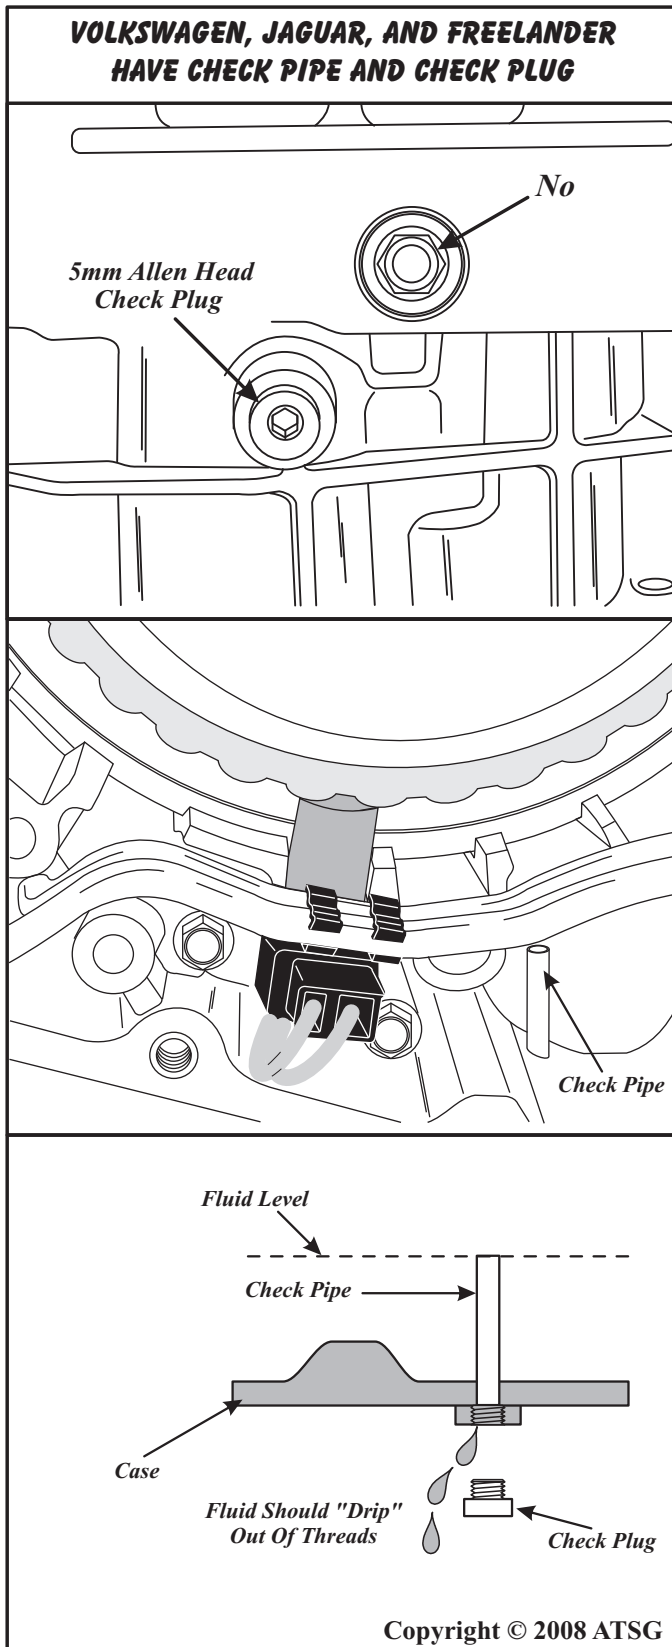
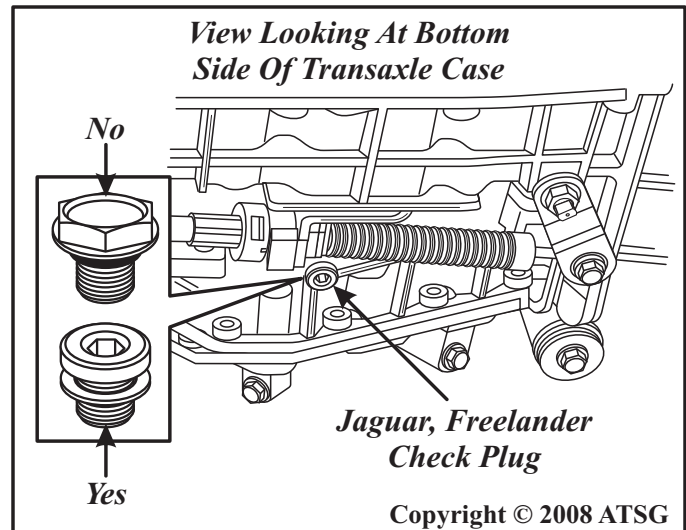
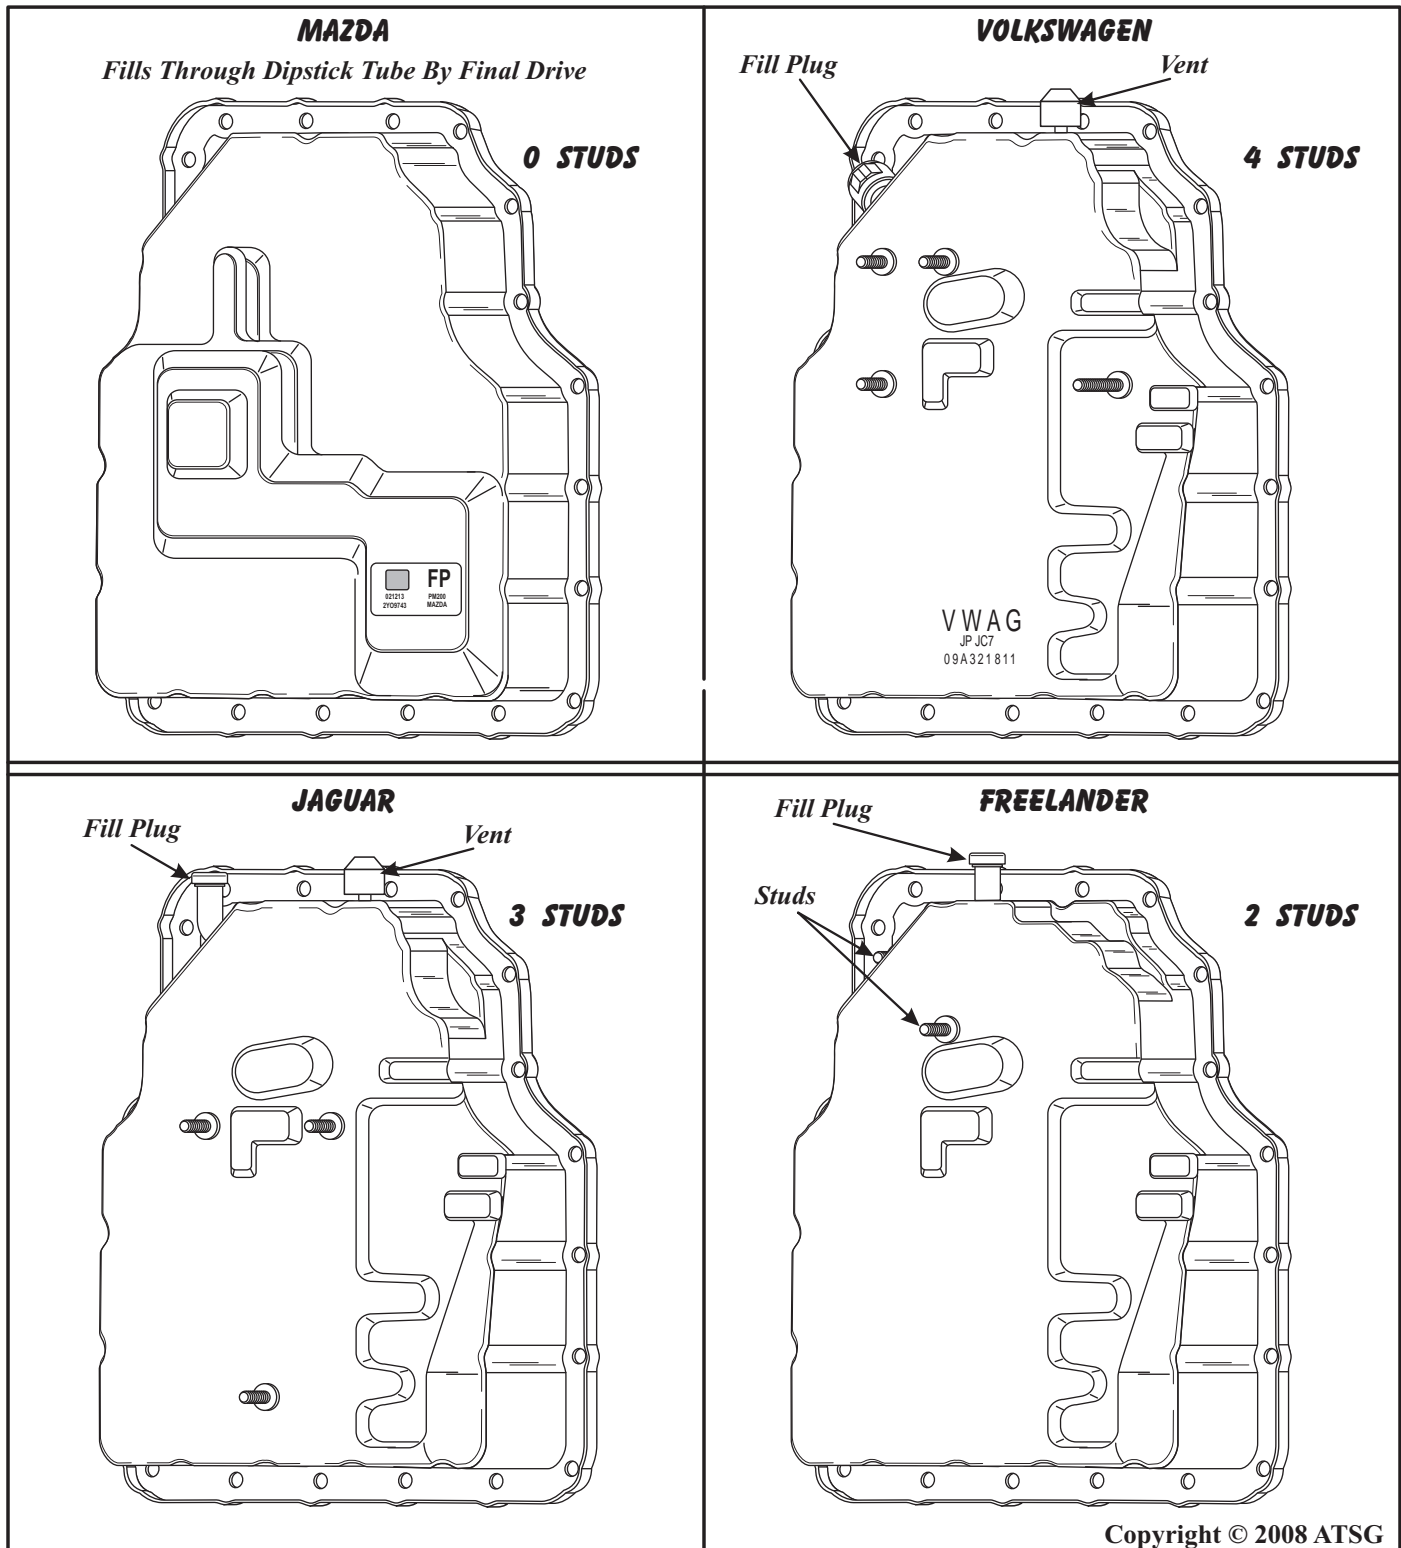

Figure 121
Figure 122
Figure 123
The Volkswagen, Jaguar, and Freelander have the fluid level check plug installed vertically into the bottom side of the transaxle case, as shown in Figure 121. The fluid level check plug all have a 5mm Allen Head, and closes the lower end of an internal fluid level tube, as shown in Figure 121. Only the excess fluid will be expelled when the check plug is removed. The Jaguar and Freelander check plug is located along side of the selector cable bracket, as shown in Figure 122. The Volkswagen check plug is located about 4 inches behind the pan rail on the bottom of the transaxle case. All three have 5mm allen head, as shown in Figure 122.
2. Remove the fill plug from the top of side cover, as shown in Figure 123.
9. If no fluid comes out, add the appropriate ATF until it drips intermittently (See Figure 121).
Each of the oil pans are also different, as shown in Figure 123. The Volkswagen, Jaguar and Freelander all have studs on the oil pan, in different locations, for various shaped brackets for the individual applications. Notice also that those three have a fill pipe and plug on the top of the pans, and the Volkswagen and Jaguar vent through the pan, where the others do not. The Mazda pan has zero studs and no fill plug on the pan, as it fills through the dipstick tube in the case, near the final drive.
CORRECTION: Some technicians have said they were able to lift the band back into position through the servo bore. If this cannot be achieved, the transaxle must be removed and disassembled to gain access to the band to place it back into proper position. When filling the unit, remove the fluid check plug from the bottom of the case, as shown in Figure 121 and 122, and fill the unit through the fill pipe located on top of the side of the pan, as shown in Figure 123.